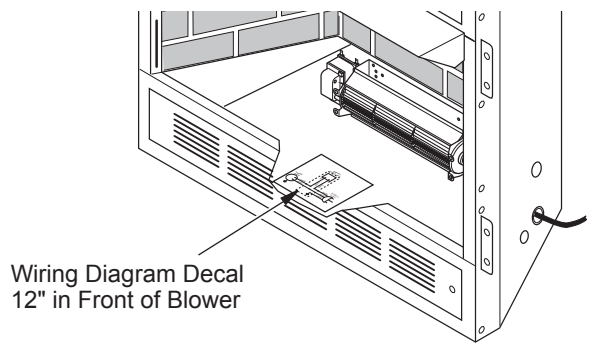

Figure 27 - Location of Wiring Diagram Decal (Model May Vary From Illustration)
10. Peel off the backing paper and stick the supplied wiring diagram decal on the firebox bottom approximately 12" in front of the blower (see Figure 27).
- Peel off the backing paper and stick the supplied wiring diagram decal on the firebox bottom approximately 12" in front of the blower (see Figure 27, page 15).